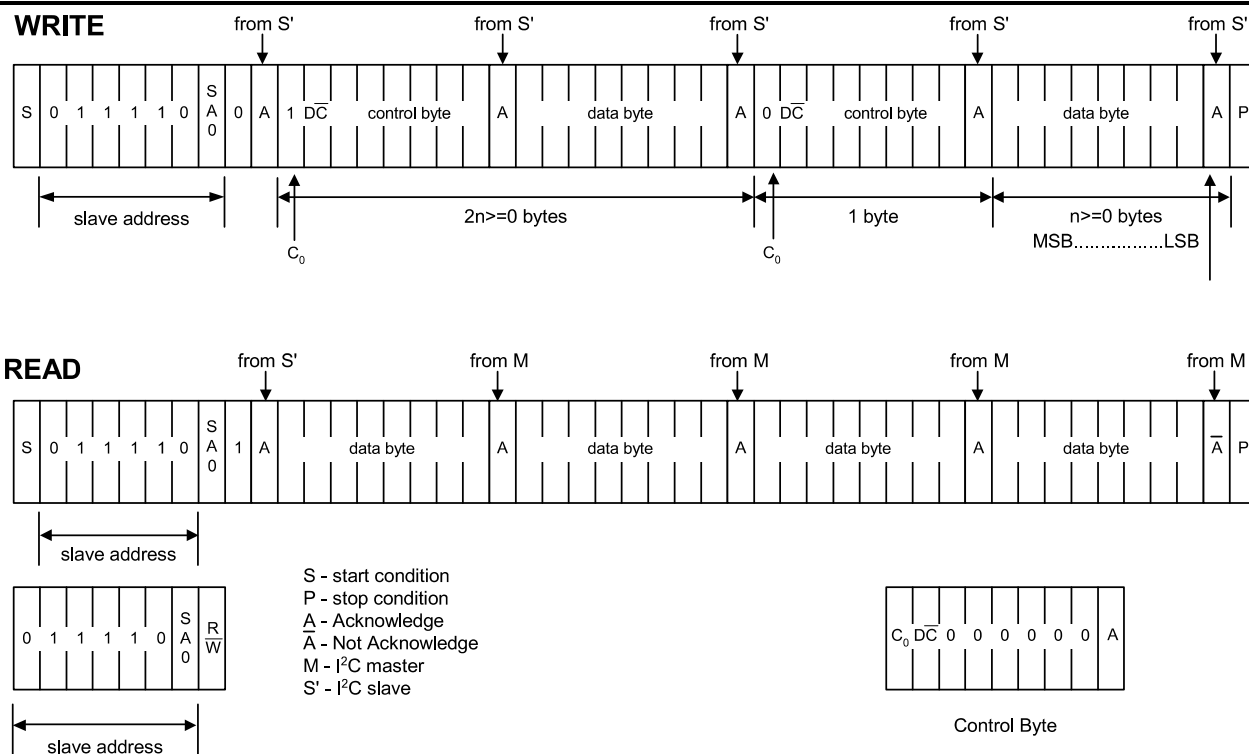

Figure 7 I²C Protocol
The SH1106 supports both read and write access. The $\overline{R/W}$ bit is part of the slave address. Before any data is transmitted on the I²C-bus, the device that should respond is addressed first. Two 7-bit slave addresses (0111100 and 0111101) are reserved for the SH1106. The least significant bit of the slave address is set by connecting the input SA0 to either logic 0(VSS) or 1 (VDD1). The I²C-bus protocol is illustrated in Fig.7. The sequence is initiated with a START condition (S) from the I²C-bus master that is followed by the slave address. All slaves with the corresponding address acknowledge in parallel, all the others will ignore the I²C-bus transfer. After acknowledgement, one or more command words follow which define the status of the addressed slaves. A command word consists of a control byte, which defines Co and $\overline{D/C}$ (note1), plus a data byte (see Fig.7). The last control byte is tagged with a cleared most significant bit, the continuation bit Co. After a control byte with a cleared Co-bit, only data bytes will follow. The state of the $\overline{D/C}$ -bit defines whether the data-byte is interpreted as a command or as RAM-data. The control and data bytes are also acknowledged by all addressed slaves on the bus. After the last control byte, depending on the $\overline{D/C}$ bit setting, either a series of display data bytes or command data bytes may follow. If the $\overline{D/C}$ bit was set to '1', these display bytes are stored in the display RAM at the address specified by the data pointer. The data pointer is automatically updated and the data is directed to the intended SH1106 device. If the $\overline{D/C}$ bit of the last control byte was set to '0', these command bytes will be decoded and the setting of the device will be changed according to the received commands. The acknowledgement after each byte is made only by the addressed slave. At the end of the transmission the I²C-bus master issues a stop condition (P). If the $\overline{R/W}$ bit is set to one in the slave-address, the chip will output data immediately after the slave-address according to the $\overline{D/C}$ bit, which was sent during the last write access. If no acknowledge is generated by the master after a byte, the driver stops transferring data to the master.